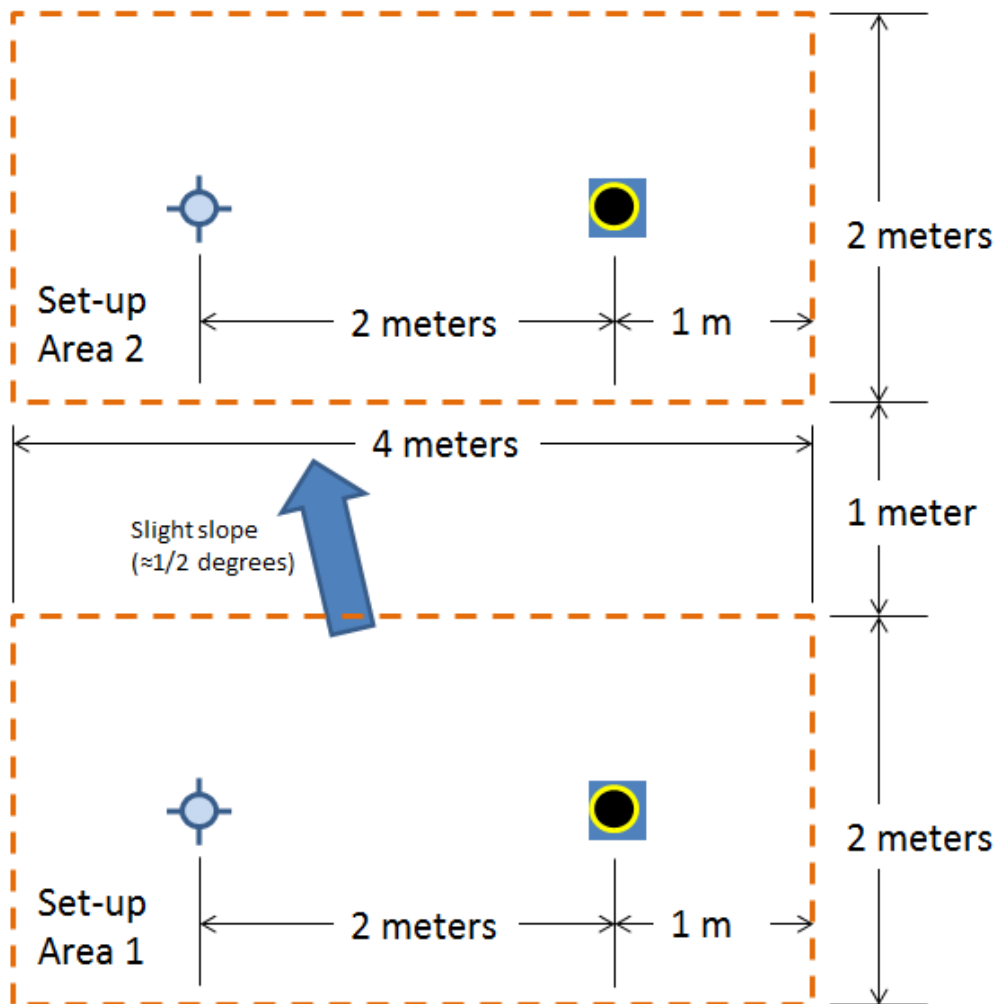

Figure 1. Contest Area – top view
- 8) The contest site is located in front of the steps leading to Building 180. The site will contain two side-by-side areas for setting up and operating the device. The size of each set-up area is 4 meters by 2 meters. Each team will be randomly assigned to either operating area. The ground is concrete with a rough finish, potentially wet, and has a slight slope (approximately $1/2$ degrees across the width as shown in Figure 1). See Figure 1 for a description of the contest area.